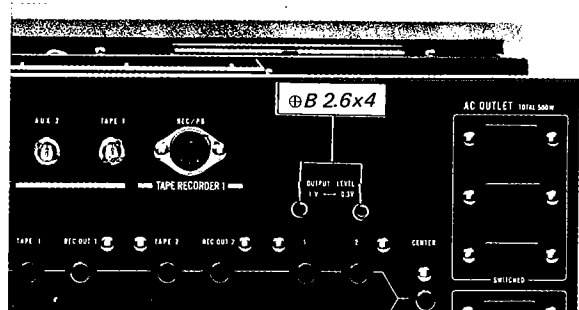

Fig. 2-8. Rear view
2. Remove the two screws (⊕ B 2.6×4) securing the OUTPUT LEVEL changeover switch to the rear panel as shown in Fig. 2-8.